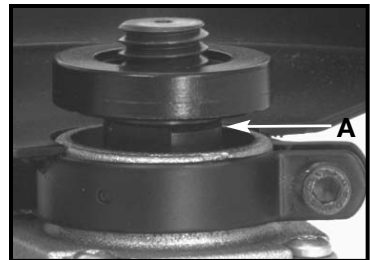

Fig. 6
**NOTE:** For **TYPE 1 Blades ONLY:** reverse the inner flange and assemble it to the spindle with the round hub facing inward, toward the tool (see A Fig. 6).